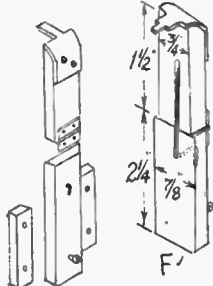

Fig. 3—Traveller details
The compressor, also cut from $\frac{1}{2}$ in. fretwood, should have the lower edges of its arms bevelled, as shown on the pattern; it can then be dropped on the bolt. The traveller, Fig. 3, can now receive attention. A front view of this part, shows it consists of two pieces of the $\frac{1}{2}$ in. wood, joined together with a small brass hinge. A rear view (F) gives the width and length of each part. The lower part has its side edges slightly bevelled, and is fitted to slide up and down between side strips, also bevelled to suit. The side strips should not exceed $\frac{1}{4}$ in. in width.